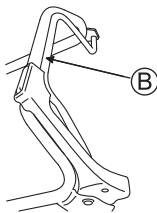

Fig. 18
4. Push the drive clutch lever (B) forward to start mowing. (See Fig. 18)